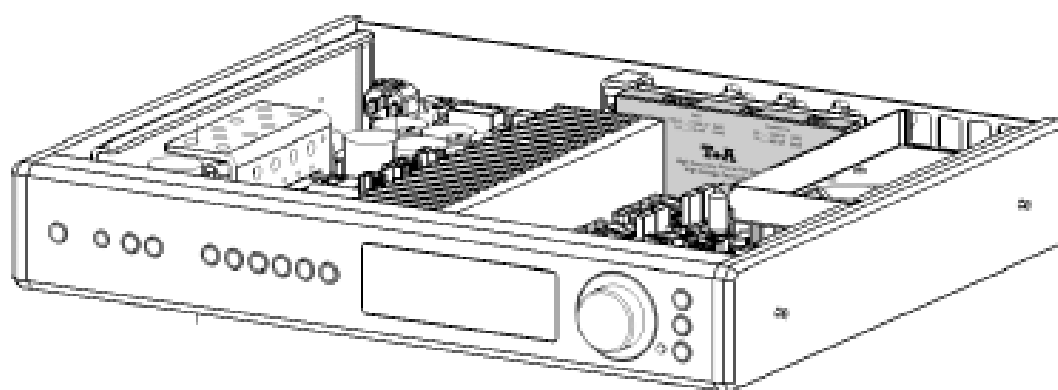

Abb. 3 / Fig. 3
To alter any settings of the Phono preamplifier module it is necessary to open the top cover of the PA 2000 R / PA 2500 R / R 2500 R. Fig. 3, 4 and 7 show the position where the phono module is located. Please adhere to the following points.
- Figure 3, 4 and 7 are showing the module in position.